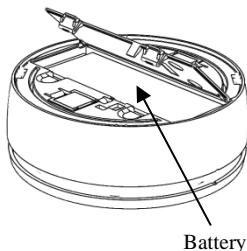

Figure 9
4. Open the battery compartment cover (*see Figure 9*).